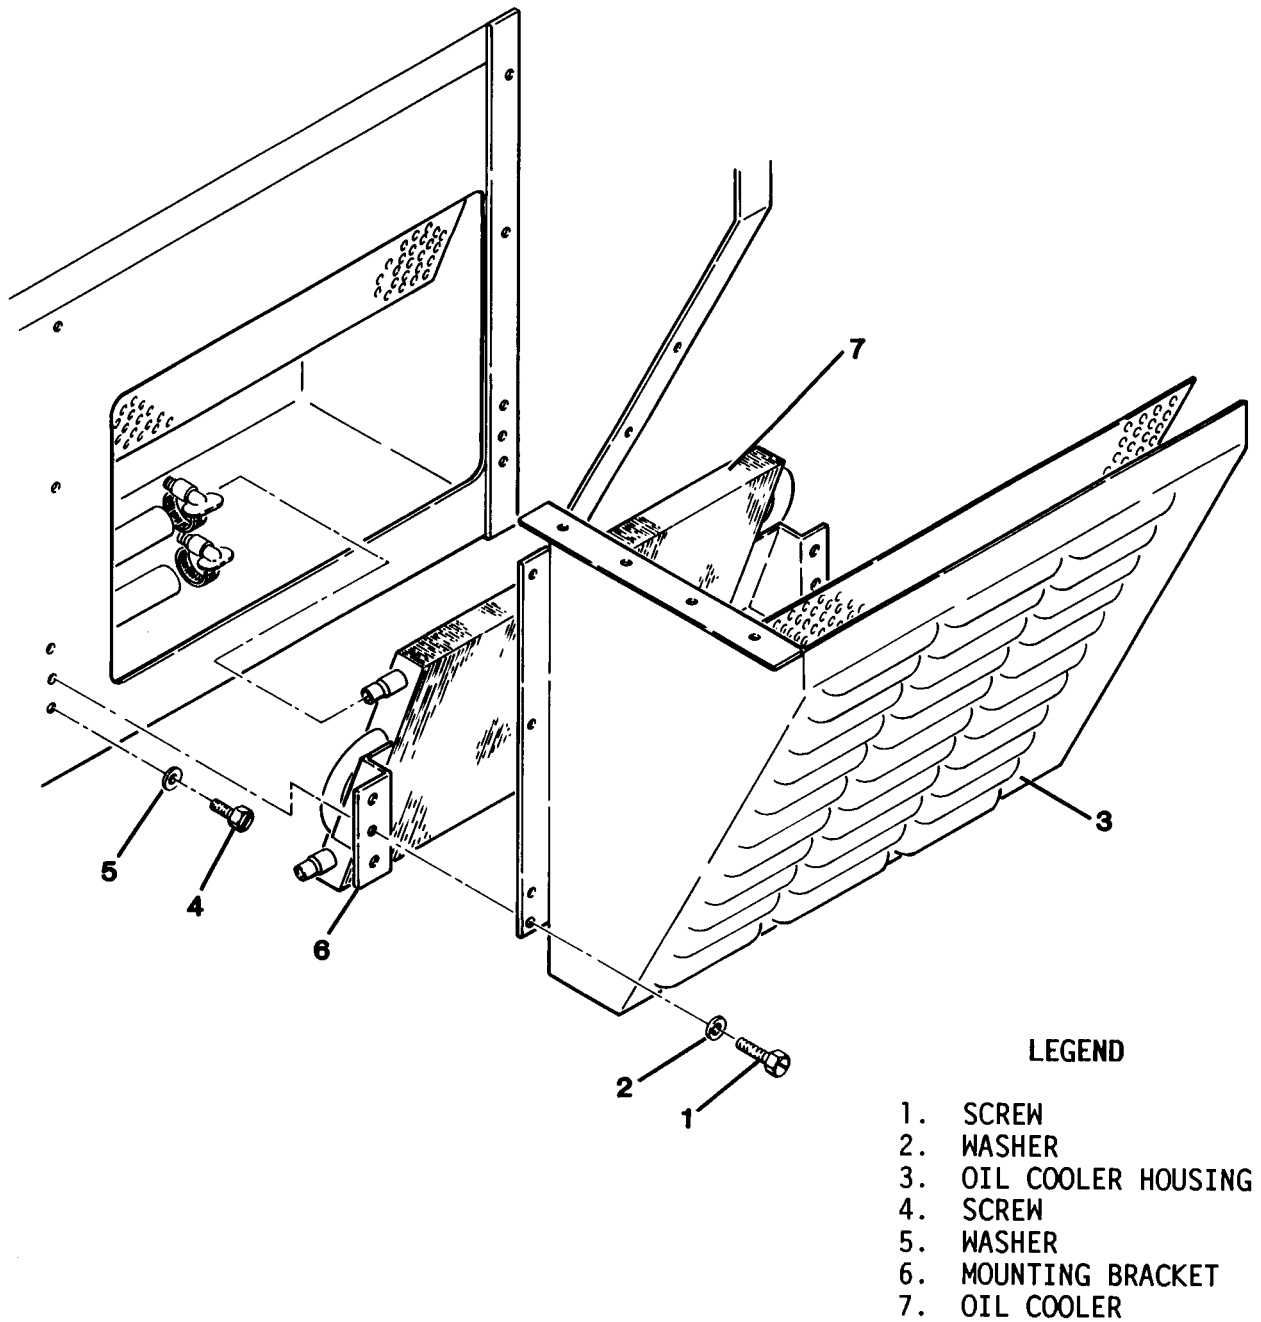

Figure 7-4. Oil Cooler Replacement
(1) Set handbrake and chock both wheels.
(2) Remove screws (1, figure 7-4), washers (2) and oil cooler housing (3).
(3) Remove screws (4) and washers (5) that secure oil cooler mounting brackets (6) to generator set.
(4) Tag, disconnect, and cap oil cooler supply and return lines. Remove oil cooler (7), with mounting brackets attached, from generator set.